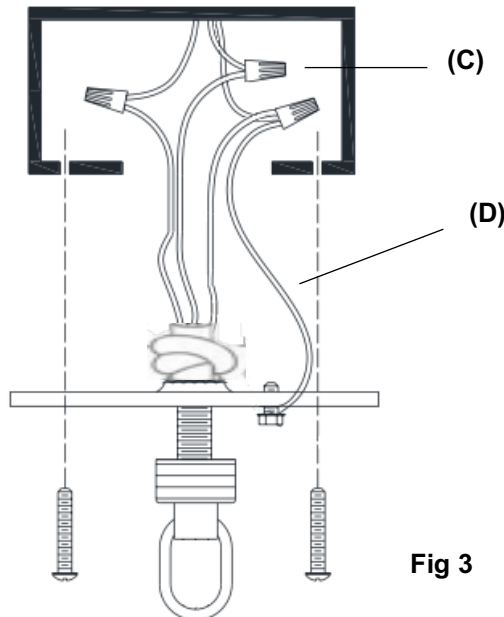

Fig 3
- d) With the help of another person to hold the weight of the fixture, attach the fixture wires to the junction wires as shown in Fig 3.
- e) Connect both the GROUND WIRE from the fixture and the Ground Pigtail Wire (D) to the GROUND JUNCTION BOX WIRE from the ceiling outlet junction box (J-box) (usually green insulation or bare wire). Fasten each together with a Plastic Wire Nut Connector (C) and wrap the connection with electrical tape. Ensure the other end of the Ground Pigtail wire is still wrapped around the Green Ground Screw and securely tightened with a screwdriver. Be sure that no wire strands are exposed. **IT IS IMPERATIVE THAT THE JUNCTION BOX IN YOUR HOME BE PROPERLY GROUNDED!**
- f) Connect the NEUTRAL FIXTURE WIRE to the NEUTRAL JUNCTION BOX WIRE (usually white insulation). Fasten each together with a Plastic Wire Nut Connector (C) and wrap the connection with electrical tape. Be sure that no wire strands are exposed.
- g) Connect the HOT FIXTURE WIRE to the HOT JUNCTION BOX WIRE (usually black insulation). Fasten each together with a Plastic Wire Nut Connector (C) and wrap the connection with electrical tape. Be sure that no wire strands are exposed. **DO NOT REVERSE THE HOT AND NEUTRAL CONNECTIONS OR SAFETY WILL BE COMPROMISED**